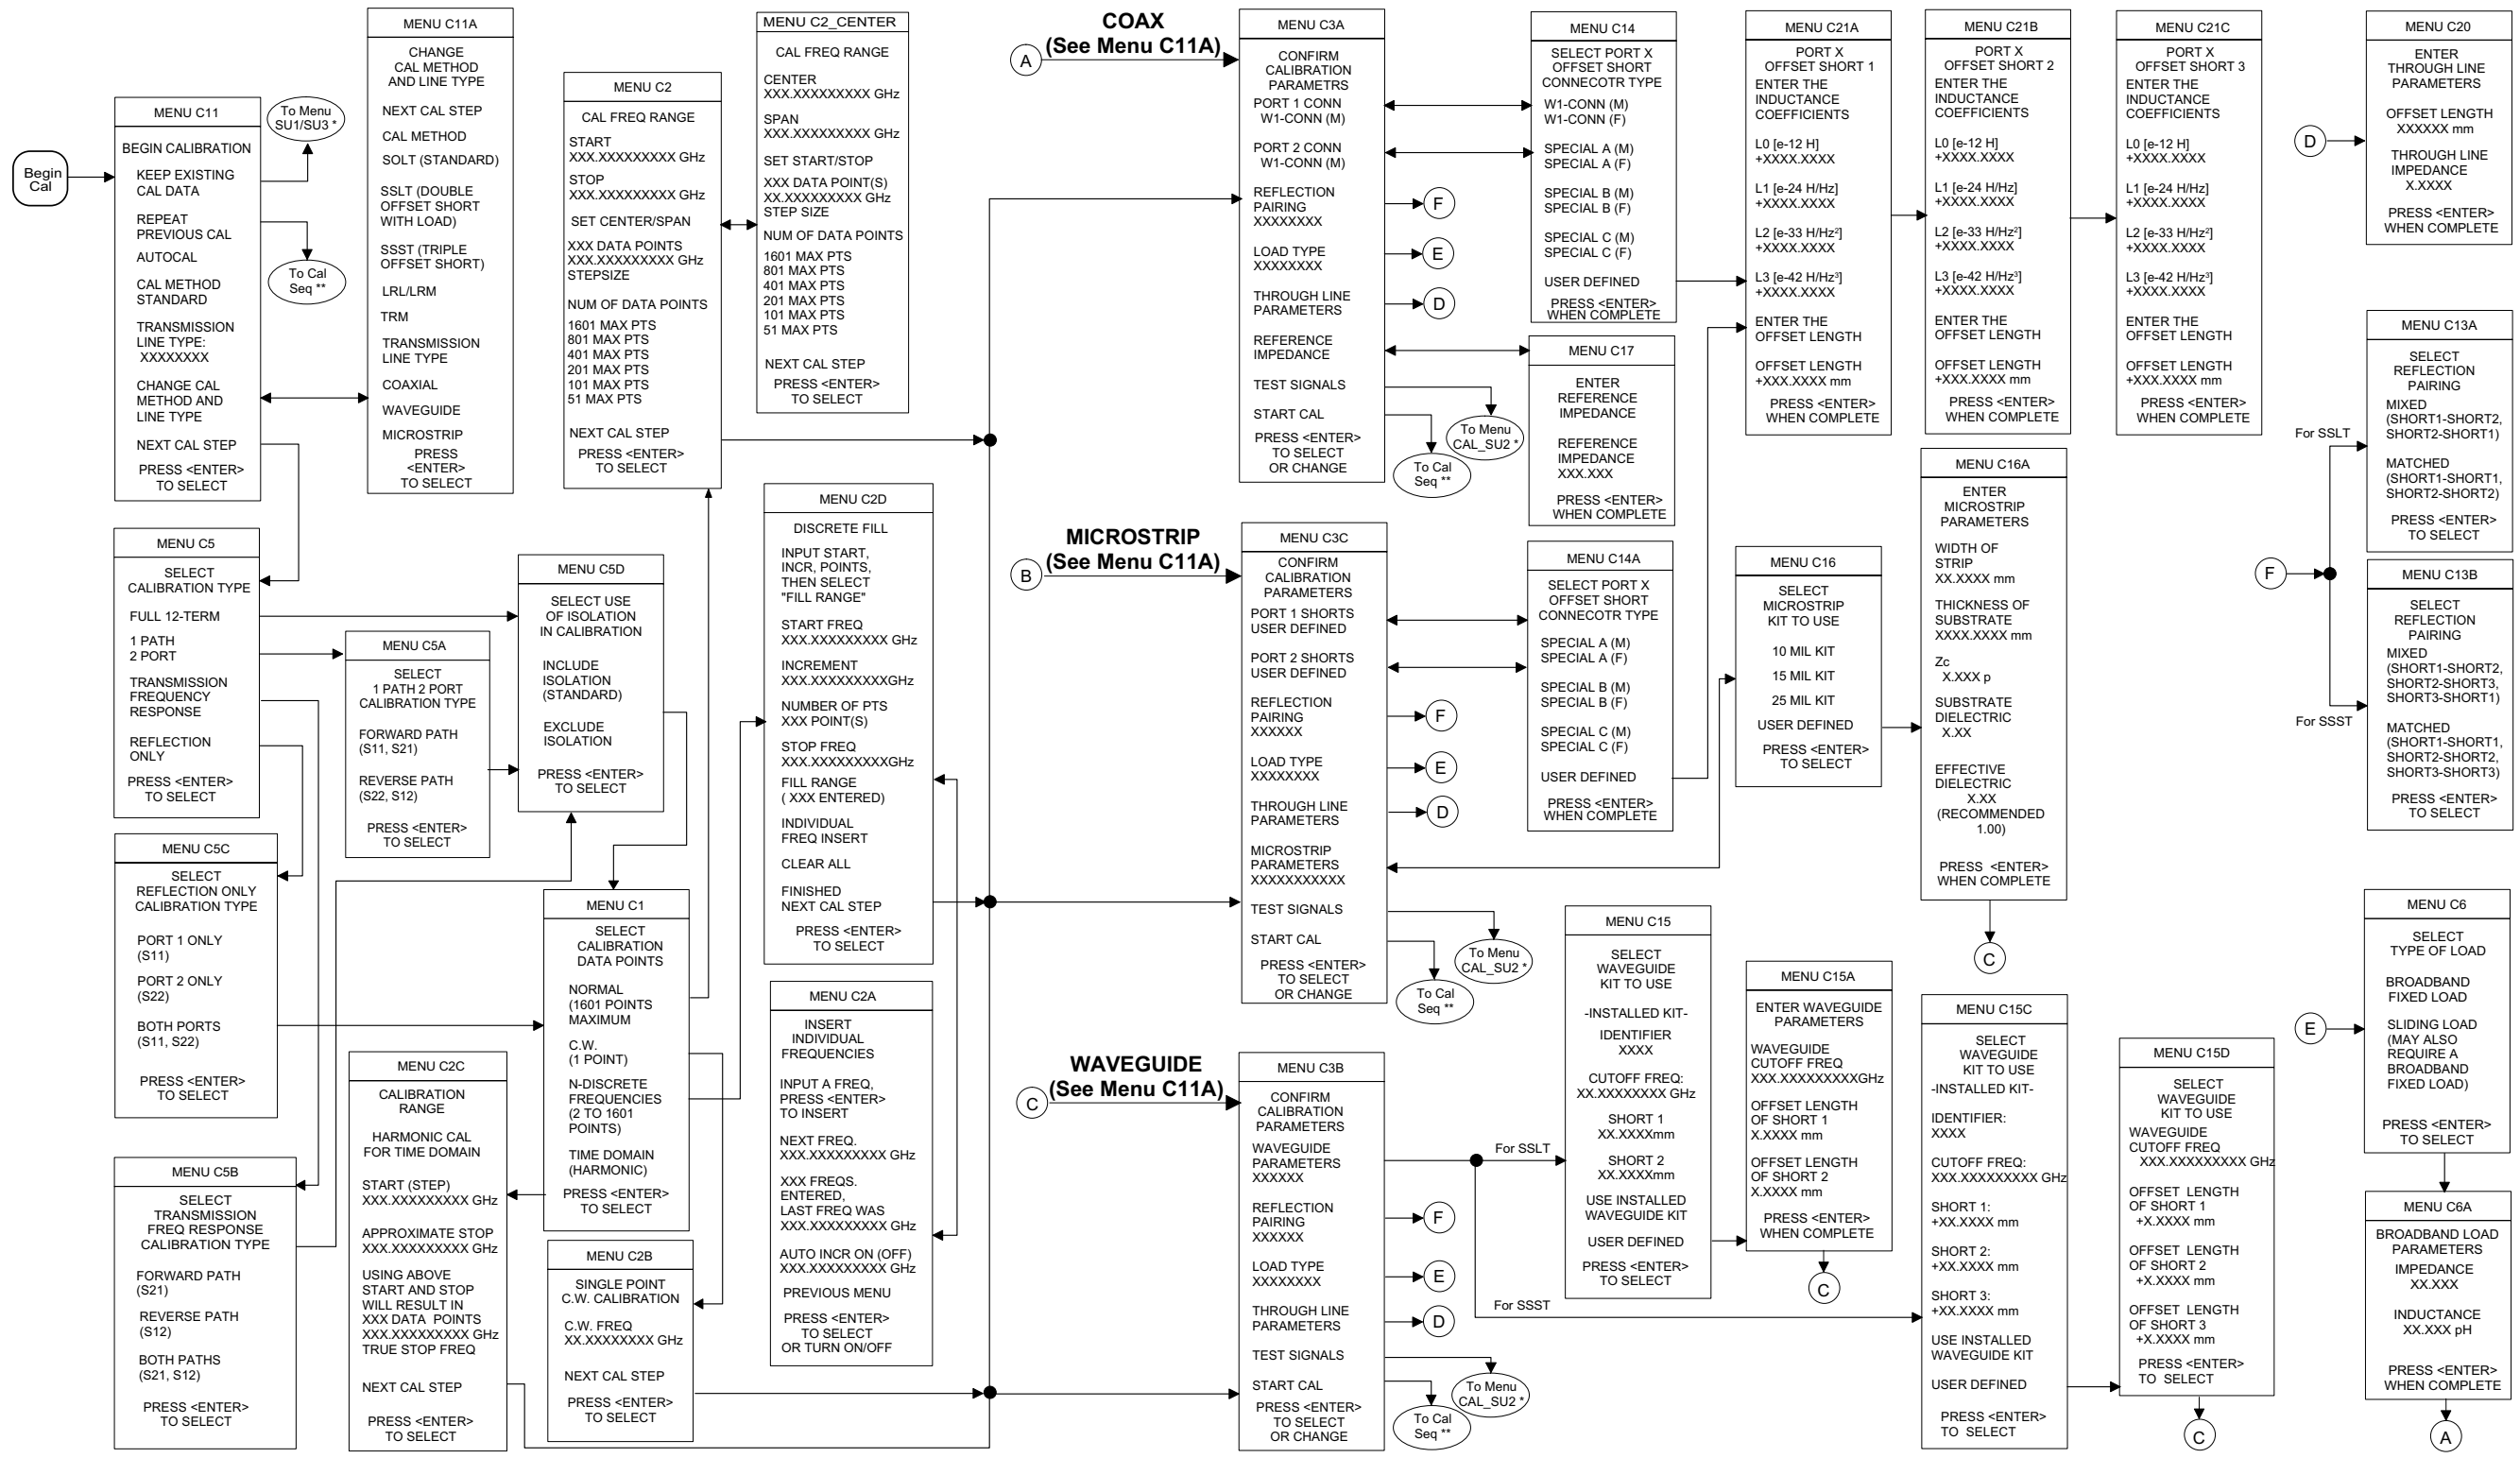

Figure 4-4. Menu Sequencing, SSLT and SSST (Offset-Short) Calibration
*** Reflection Pairing Menu C13A or C13B – See Figure 4-4